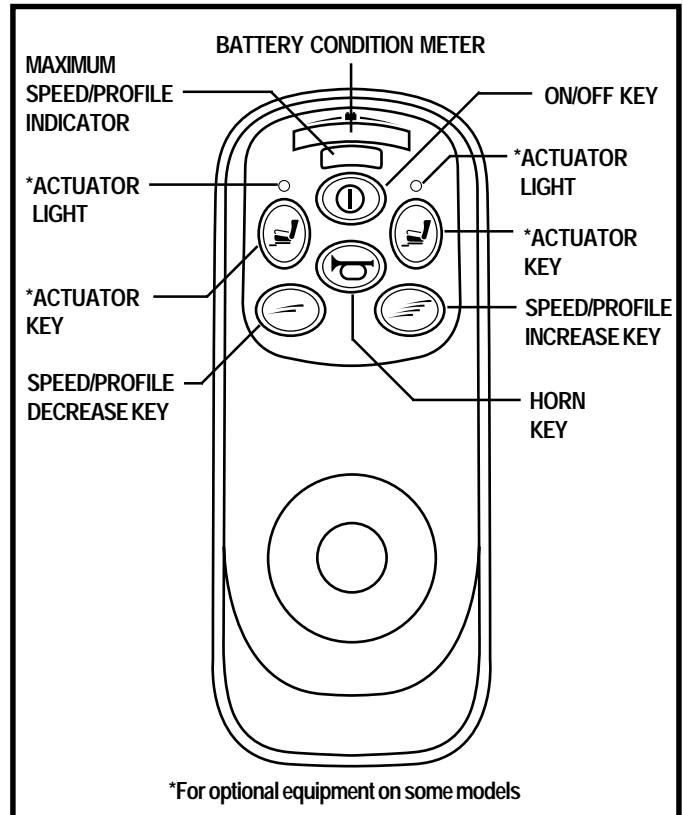

Figure 23. VSI Controller Keypad
2. keypad (see figure 23)
The keypad is located in front of the joystick. It contains keys necessary to operate your power chair. See figure 23.
The on/off key turns the VSI on and off. See figure 23.
The battery condition meter is located in front of the joystick. See figure 23. This is a 10-segment illuminated display that indicates that the VSI is powered on and also gives the battery status, the VSI status and the electrical system status.
There are two keys that control either the speed or the profile. See figure 23. This depends on how your VSI was programmed. Press the speed/profile increase key to increase the speed or change the profile. Press the speed/profile decrease key to decrease the speed or change the profile. The speed/profile setting is displayed on the maximum speed/profile indicator. If your power chair was programmed with a drive profile, contact your Quantum Rehab Specialist for more information.
Actuator keys and actuator lights are used for optional equipment such as power elevating seats, power elevating leg rests and lighting systems. See figure 23. For specific operation of the actuator keys and actuator lights, contact your Quantum Rehab Specialist.
The horn key activates the horn. See figure 23.